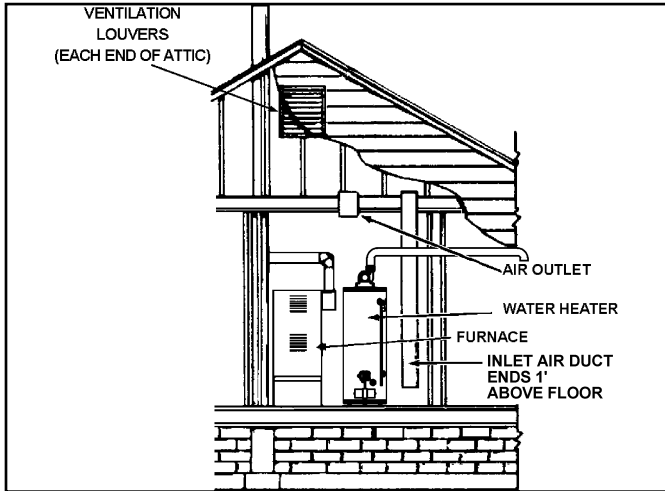

Figure 19
2. When communicating with the outdoors through vertical ducts, each opening shall have a minimum free area of 1 square inch per 4,000 Btu/hr of total input rating of all equipment in the enclosure (see Figure 19).